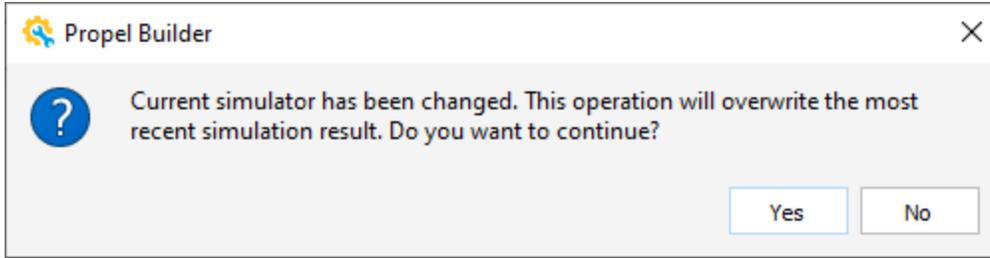

Figure 2.126. Remind for Simulation Tool Change
- If there is a simulation tool change, make sure to generate simulation environment again. Otherwise, a dialog box pops up prompting you to make a choice of Yes or No (Figure 2.126).